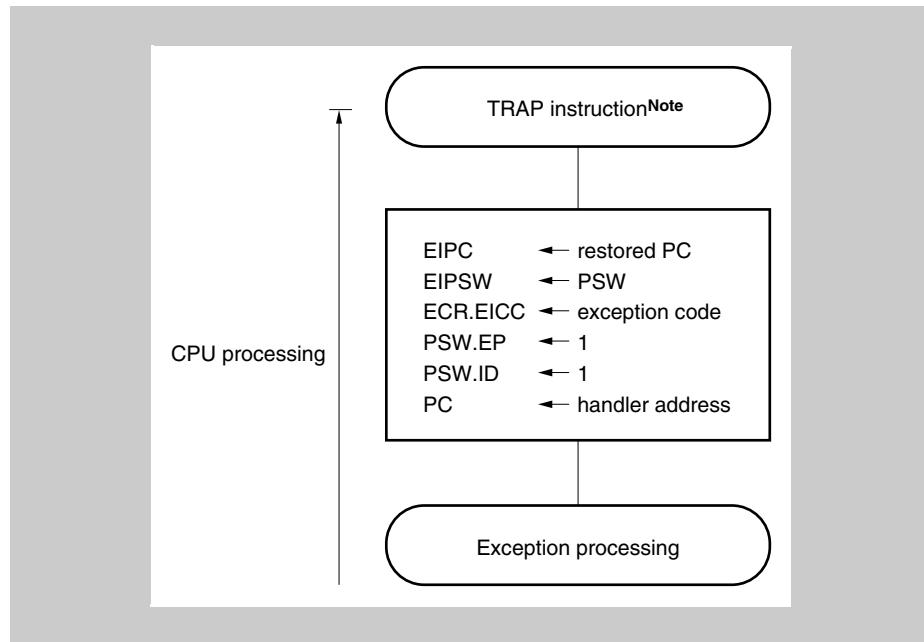

Figure 5-10 Software exception processing
*Figure 5-10 illustrates the processing of a software exception.*